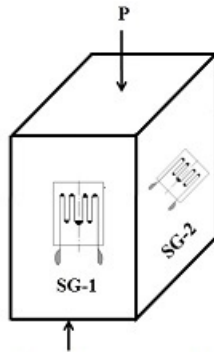
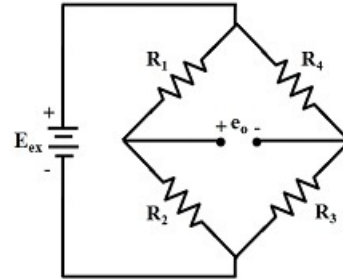

Figure 2. Column type load cell. SG-3 is present on the opposite surface of SG-1, while SG-4 is opposite to SG-2.
Figure 3. Wheatstone's bridge
As shown in Fig. 2, four strain gauges (SGs) are attached to the four vertical surfaces of a column type of load cell of 24 cm height and 12 cm² area. Gauge on opposite faces experience either transverse or axial forces. The gauges are connected to a bridge circuit (see Fig. 3) in such a way that any temperature effect is compensated. The bridge output (e_o) is amplified by an ideal differential amplifier. Calculate the amplifier gain (A_d) when its output (e_A) is 1.5V for a compressive force of 2.5×10^5 N. Use the following data:- gauge resistance = 120 ohm, $\lambda = 2.05$, Bridge excitation voltage = 5 VDC, Young's modulus of elasticity (Y) = 2.1×10^{11} N/sq.m, Poisson's ratio (ν) = 0.285.